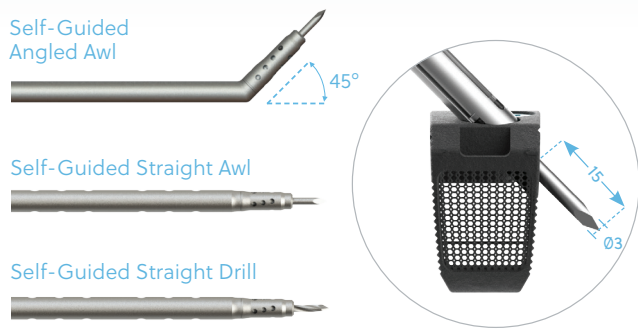

Figure 16
- Self-guided instrumentation includes the self-guided angled awl, self-guided straight awl, and self-guided straight drill (Figure 16).